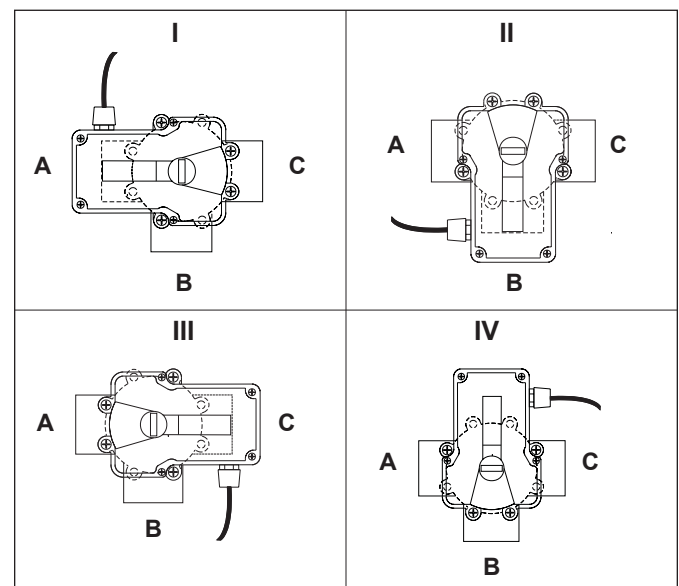
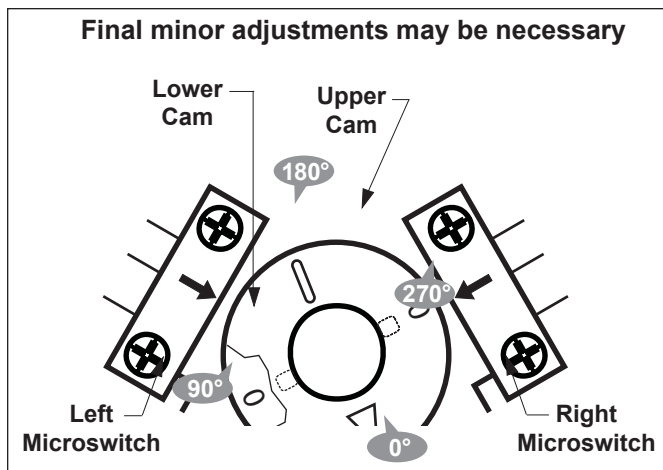

Figure 9. JVA Mounting Positions.
Figure 10. JVA Cams
NOTE Before resetting cams, if the valve is plumbed in **Standard Plumbing** position and the actuator is in **Standard Mounting** position *there is no need for resetting the cams* (see Figure 9). If a port other than "B" is plumbed as the common port or if the actuator is mounted other than **Standard Mounting**, the cam setting must be changed so the actuator shaft and the valve diverter rotate properly. Refer to the Cam Setting Chart on page 8 for proper settings.
- Remove the four (4) Phillips head screws that secure the actuator lid and then remove the lid.
3. **Important** - Rotate the actuator shaft so the arrow mark on the top cam aligns with the microswitch actuator (bottom cam arrow mark should also align with the bottom microswitch actuator, see Figure 10). Locate the mounting position for the actuator (as per Figure 9, the mounting position will be either I, II, III, or IV). Next, determine what valve port is the common or inlet port (as per Figure 9, the common port will be either A, B, or C). Then refer to the Cam Setting Chart below to determine what the cam settings should be. For example, if the actuator is in JVA mounting position "I", and the common port on the valve is port "A", the cam settings would be 90° for the top cam and 180° for the bottom.